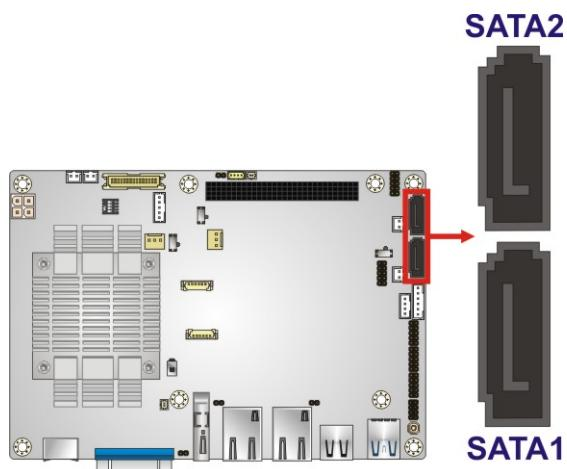

Figure 3-24: SATA 3Gb/s Drive Connector Locations
3.2.22 SATA 3Gb/s Drive Connectors**CN Label:** SATA1, SATA2**CN Type:** 7-pin SATA drive connectors**CN Location:** See Figure 3-24**CN Pinouts:** See Table 3-20